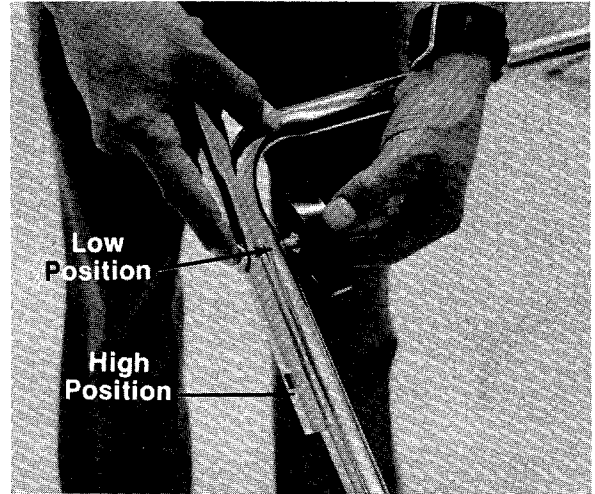

FIGURE 7.
3. There are two height positions for the handle. Place upper handle in position over lower handle, selecting hole for either high or low position. Refer to figure 7.
The upper handle can be adjusted to a high or low position. The adjustment is made by removing the two knobs and the two curved carriage bolts and reassembling in the other position. See figure 7.